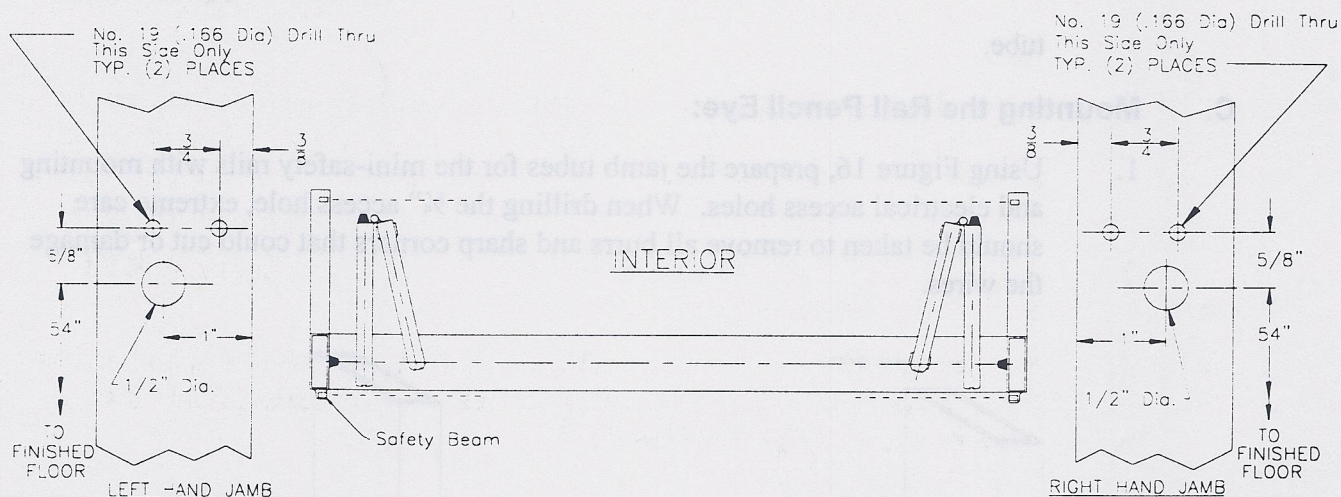

Figure 13: Jamb preparation for the outside pencil beam.
1. On overhead-concealed units, the jambs need to be prepped with mounting and electrical access holes for the "outside" pencil eye. Refer to Figure 13 for details.